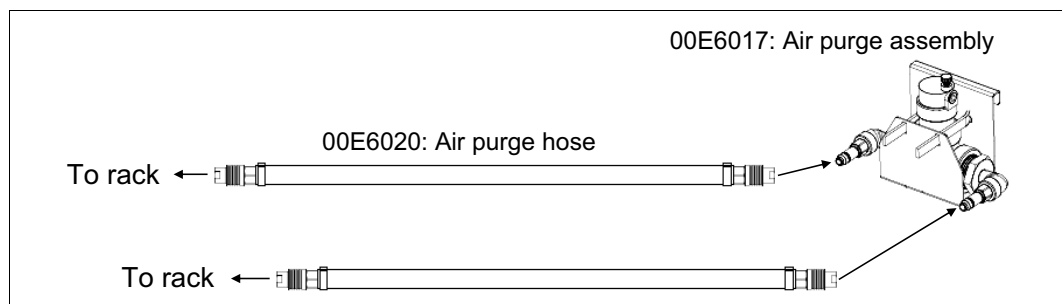

Figure 1-23 Air purge kit
2. Locate the four air purge hoses and the two air purge assemblies. See Figure 1-23.